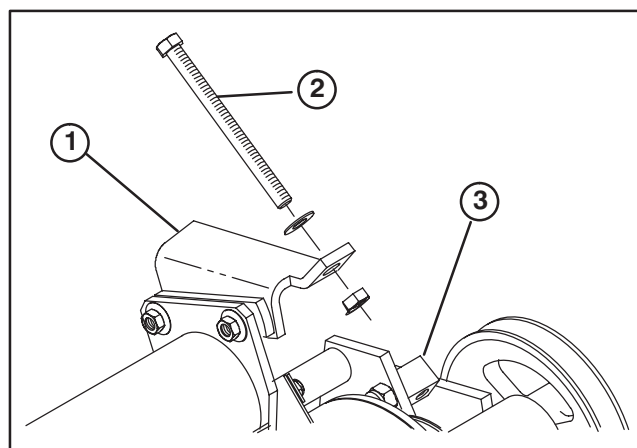

Figure 9
32. Insert a flat washer onto tap bolt, then thread tap bolt into adjustment bracket about two inches. Loosely thread a hex nut onto tap bolt (Fig. 9).
33. Pivot clutch and bracket assembly up until tap bolt can be threaded into bolt guide (Fig. 9).